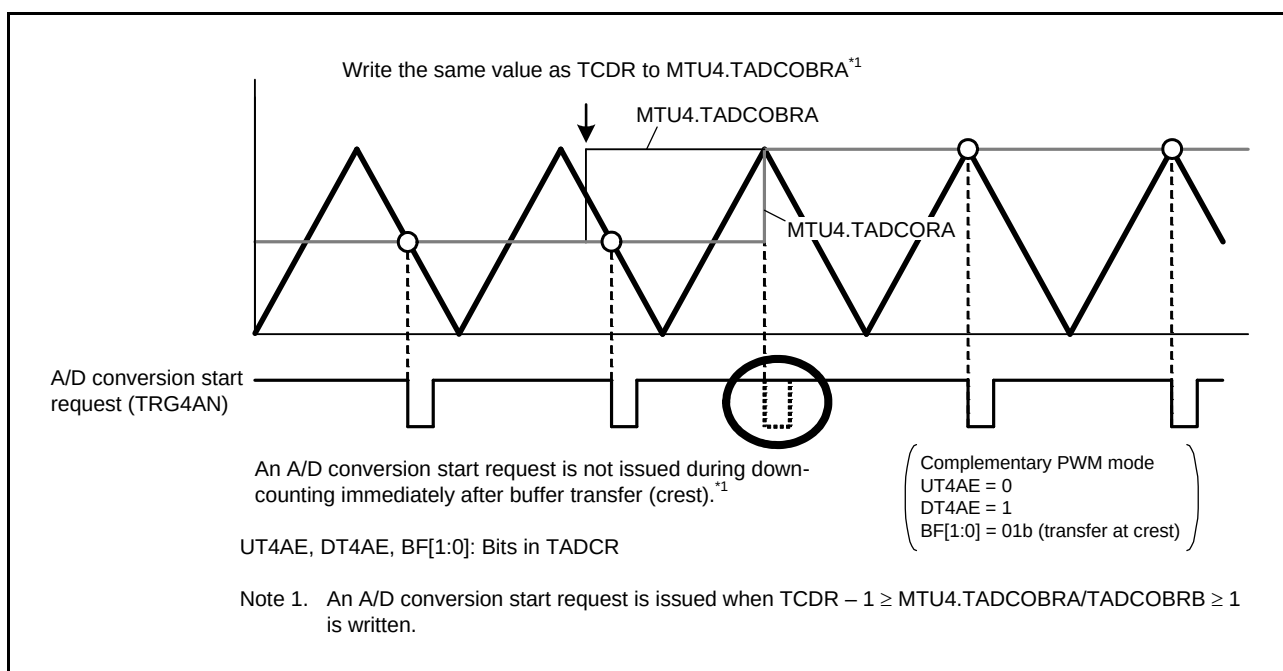

Figure 19.142 A/D Conversion Start Request When the Same Value as TCDR is Written to MTU4.TADCOBRA
- When data is transferred from a buffer register at the crest of the MTU4.TCNT counter while the MTU4.TADCOBRA and MTU4.TADCOBRB registers are set to the same value as the TCDR and the UT4AE and UT4BE bits in the MTU4.TADCR register are set to 1, no A/D conversion start request is issued during down-counting immediately after transfer. Refer to Figure 19.142.